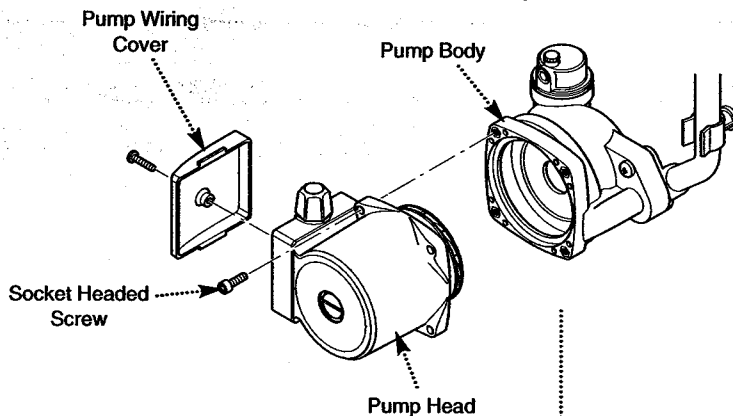

Fig. 55
3. A standard Grundfos replacement head can now be fitted. A Grundfos 15-50 head is suitable for the Combi 80e. The Combi 105e requires a 15-60 head. Connect the wiring to the new head. **The pump speed must be set to 3 (Fig. 55).**